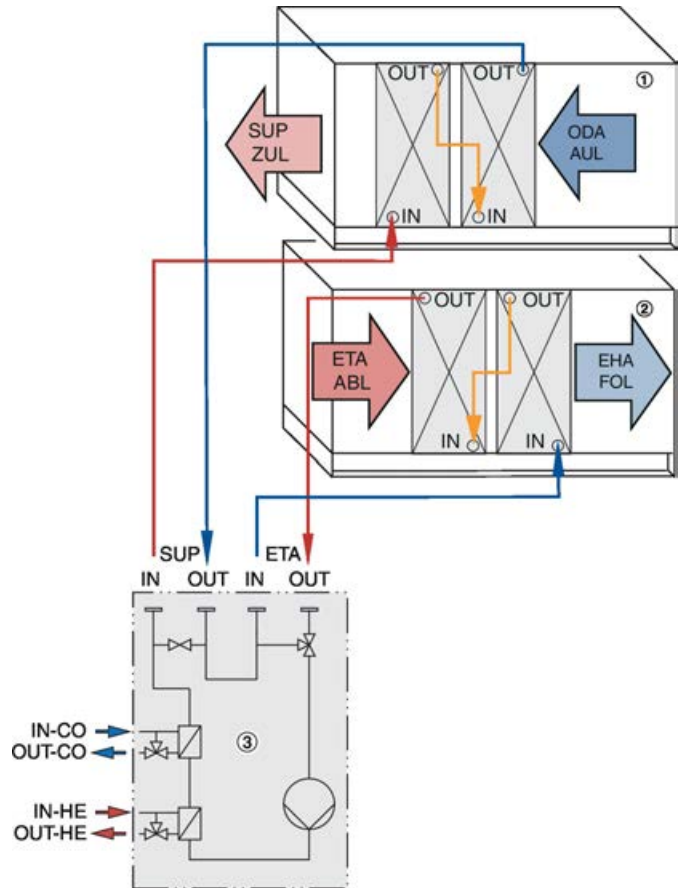

Fig. 37: Hydraulic system connection (example)
- ① Supply air unit
- ② Extract air unit
- ③ hydraulic unit
- ▶ Connect the heat exchanger with the hydraulic unit (Fig. 37).
- 4 ▶ Run-around coil systems with external feeding: Make the required connections (Fig. 37).